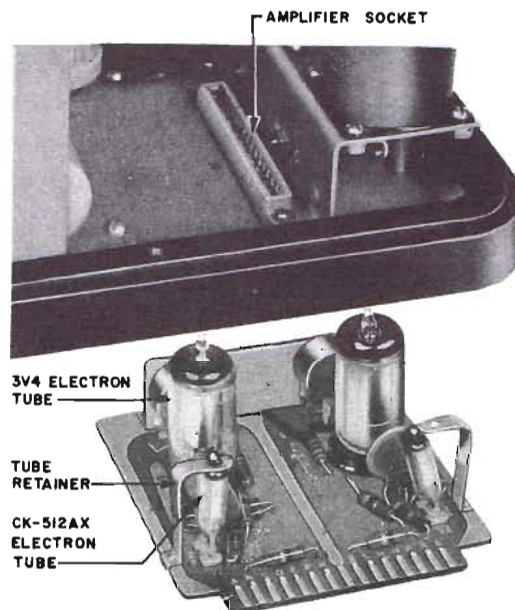

Fig. 5 — KS-14990 Amplifier
2.08 The KS-14990 amplifier (Fig. 5) is used in both the KS-14964 and KS-14964, List 2 control units.